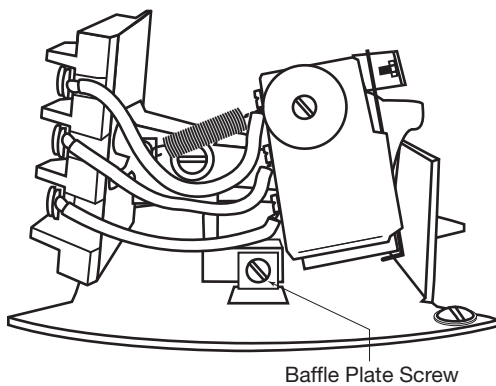

Figure 7
3. Remove small round head screw securing lower switch mechanism to baffle plate, refer to Figure 7.